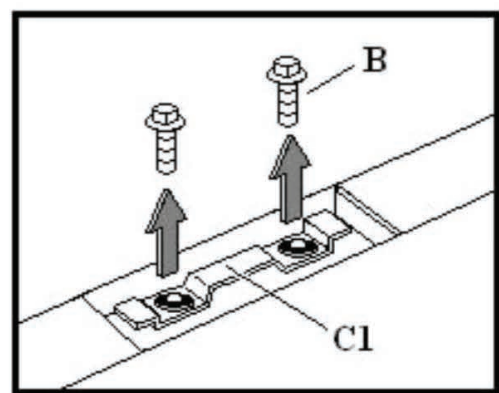

Fig. 2
- 4- Refer to page 5 Fig. 2 remove all 12 screws "B". When loosening screws "B" switches from one screw to the other until both screws are finally removed from each mounting point. **DO NOT REMOVE ONE SCREW AT A TIME AS THIS MAY TWIST, CRACK OR DISLodge THE THIN WHITE NYLON WATER PROOF SEAL / NUTPLATE (C2) PROTRUDING OUT FROM THE ROOF TOP AS SHOWN ON PAGE 5 FIG. 3 "C2" AND PAGE 6 FIG. 5A "C2".** Apply the same screw extraction method if you are removing the originally installed factory roof rack.
- 5- Refer to page 5 Fig. 2 and remove cover plate bracket "C1" from roof top by pulling up in the directions of the arrows and dislodging the bracket from the surface of the vehicle. The bracket is held in place by a thin layer of clear double back tape simply pull up and remove. Apply the same procedure to the remaining brackets then clean the surface of the vehicle under each removed bracket and around each white nylon water proof seal "C2" with denatured alcohol as shown in Fig. 3. An actual image of bracket "C1" is shown on page 6 Fig. 5 a prior to removal you can see the nylon water proof tube shown as "C2". Fig. 5 illustrates bracket "C1" correctly removed from the vehicle.